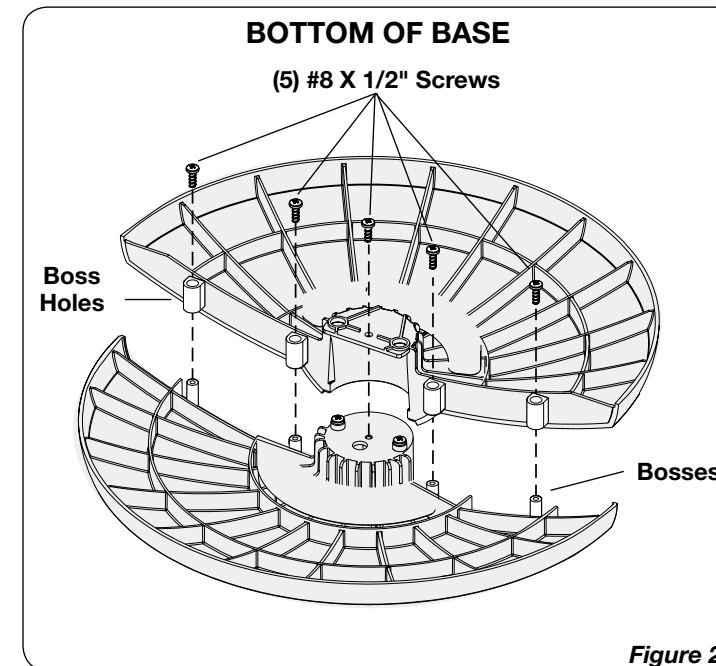

Figure 2
BASE ASSEMBLY (Figure 2)
2. Secure the (5) #8 X 1/2" Screws into the Boss Holes on the Bottom of Base. (Figure 2)